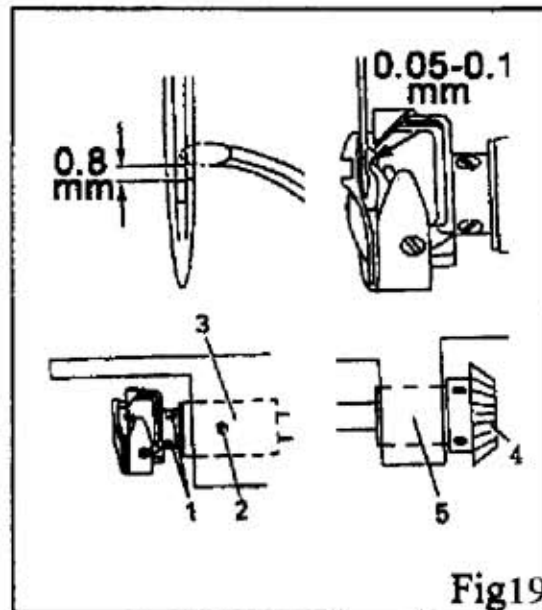

Fig19
① Adjust the maximum stitch length
② Loosen screw 1 only enough so that the feed lifting cam 2 turns round the shaft.
③ Bring the needle into lower position
④ While retaining this position, first push the eccentricity of the feed lifting cam 2 upwards, observing the above rule when operating the lever.
⑤ Tighten screws 1.
5) Hook Positioner, Grab distance and needle height(Fig.19)